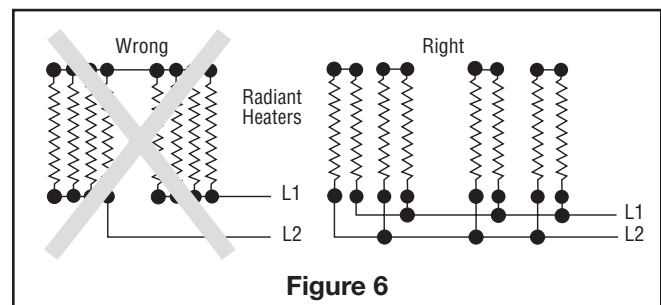

Figure 6
8. SERIES CONNECTION of Radiant Heaters of equal volt and watt rating is permitted in all line voltages up to 600 volts. In making such series connections it is necessary to observe the "right" (series-parallel) connection rather than the "wrong" (parallel-series) connection both shown in Figure 6. If heaters are connected according to the "wrong" illustration, failure of any heater will cause progressive failure of other heaters still operating.